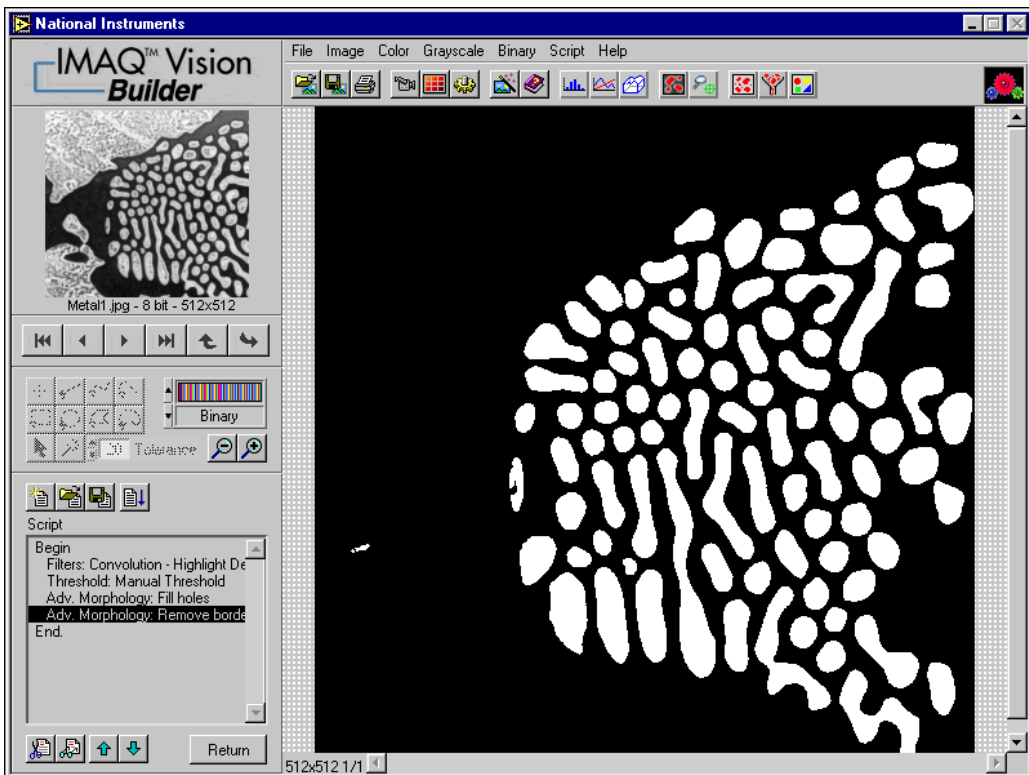

Figure 3-4. Modifying Blobs with Morphological Functions
4. Select **Remove border objects** to remove any objects that touch the border of the image, as shown in Figure 3-4.